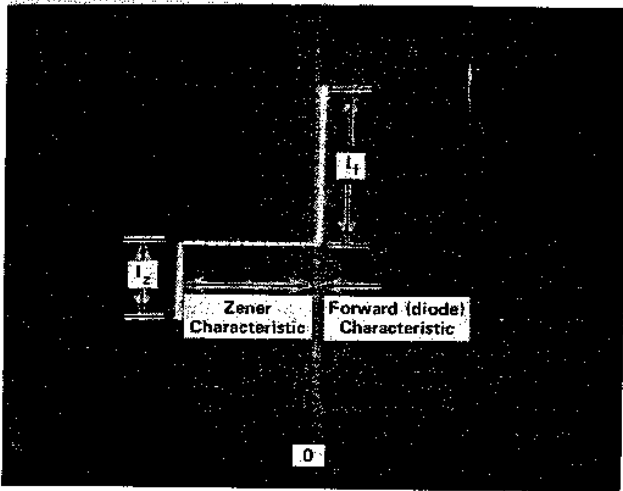

Fig. 9. Display of Zener diode characteristics (AC mode).
22. Set the LEFT-RIGHT switch to RIGHT and turn the VARIABLE COLLECTOR % control to obtain a display similar to that in Fig. 9. Note that both forward and reverse characteristics are displayed.